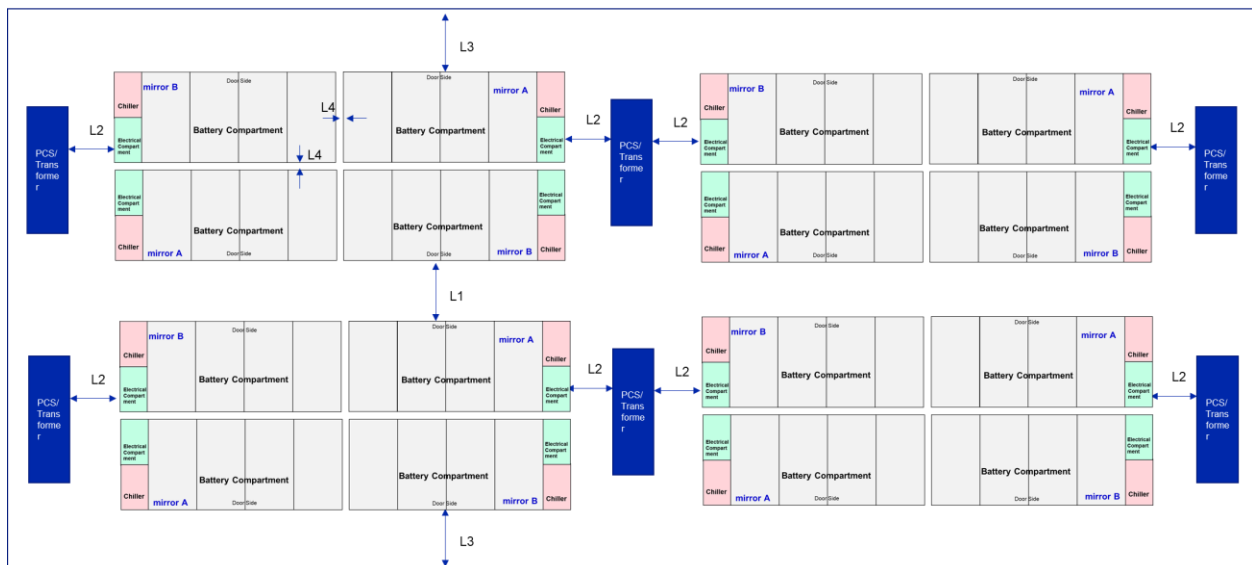

Figure 5-1 Clearance requirement
- 6 Choose an open location according to the requirement of Figure 5-1, and ensure that there are no obstacles from the surrounding area.